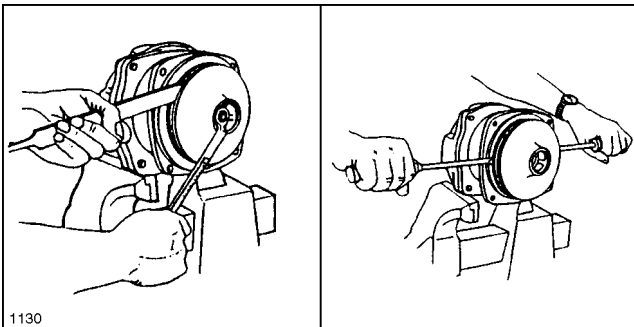

FIG. 21
2. To remove the impeller nut, clamp the flange in a vise and insert a large screwdriver or file (at least 10" long) into impeller vanes to prevent impeller from turning when loosening nut. Use a 5/8" box end or socket wrench to remove the impeller nut by turning it counterclockwise. See FIG. 21.
3. Once nut is removed, place a screwdriver on each side (FIG. 21) behind the impeller and pry away from the mounting flange. Remove woodruff key from the shaft. Remove O-ring from the mounting flange.